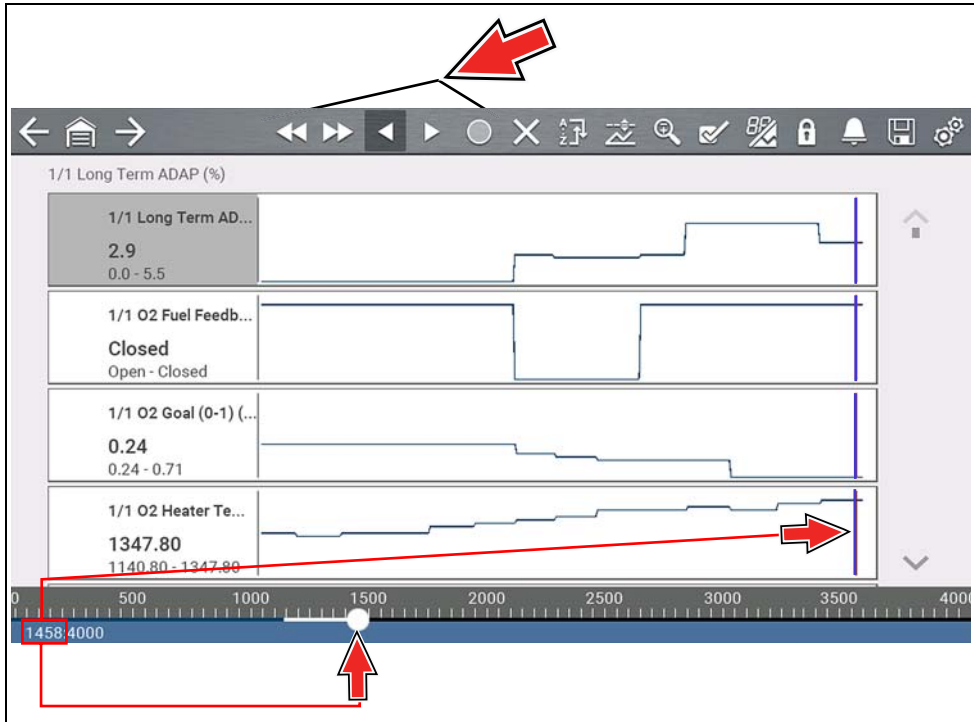

Figure 4-20
- Use the review control icons (Figure 4-20) to accurately move through the data.
- The blue (vertical cursor) (Figure 4-20) indicates your position in the data and is denoted by the current position value in the counter display. This cursor displays in all PIDs.